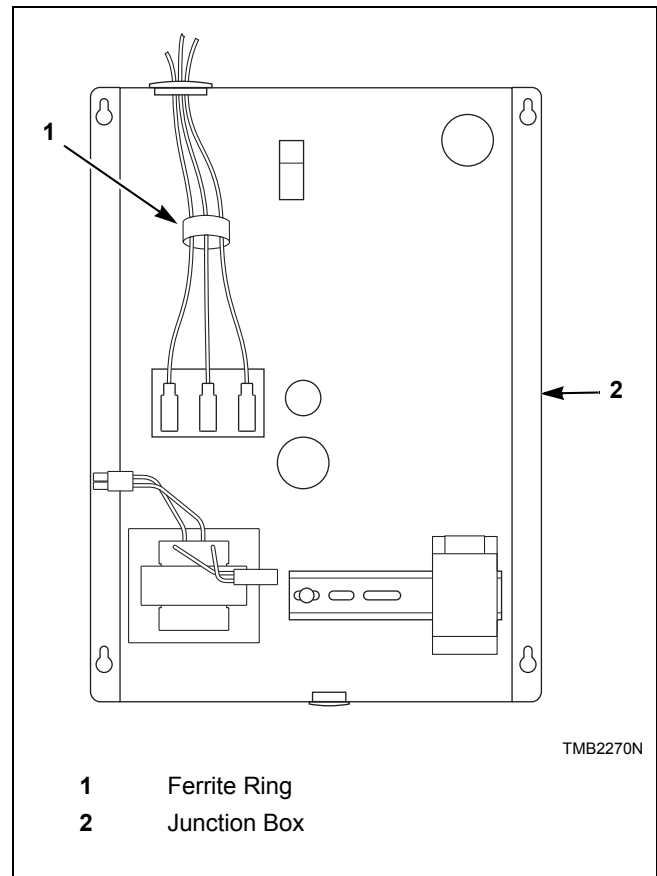

Figure 10
2. Snap the ferrite ring closed over all the service leads inside of the contactor box as shown. It is important that the ferrite ring be installed inside the contactor box. Refer to *Figure 10*. Do not install the ferrite outside of the box or other area. Make sure that service leads are in the center of the ferrite before closing the ring so not to pinch or damage leads.